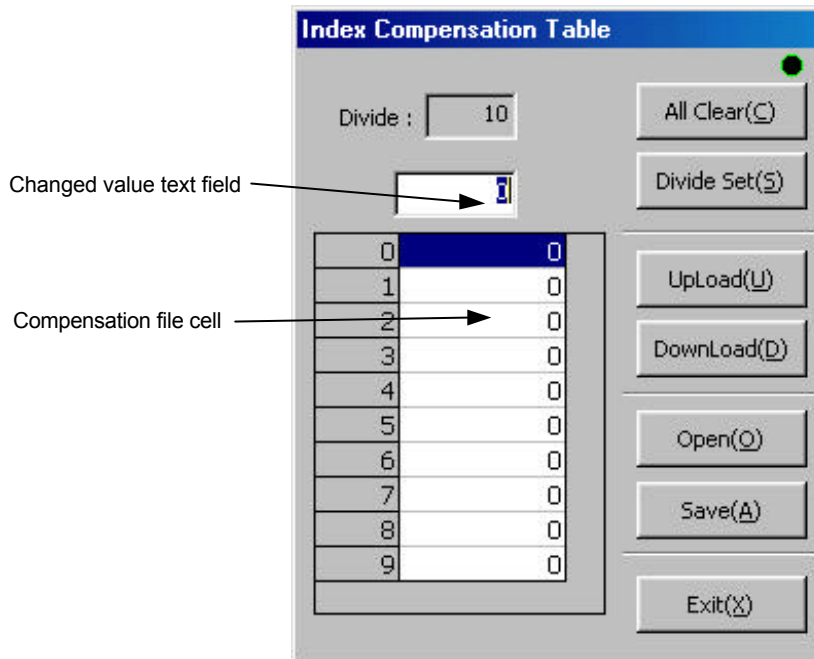

Figure 7.42 “Index Compensation Table” dialog box
Click *“Table Edit (E)”* in the “Index compensation” dialog box to display the “Index Compensation Table” dialog box (see Figure 7.42).